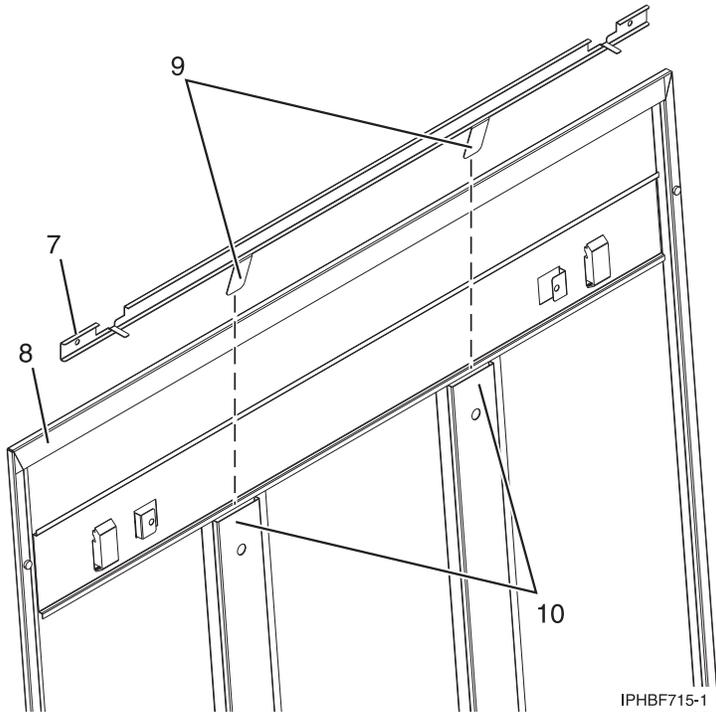

Figure 77. Installing a security slide bar
- b. With the flat side of the slide bar rail (7) in Figure 77, facing the inside of the cover panel (8), insert the two tabs (9), on the slide bar rail into the two vertical support channels (10) on the side cover panel.